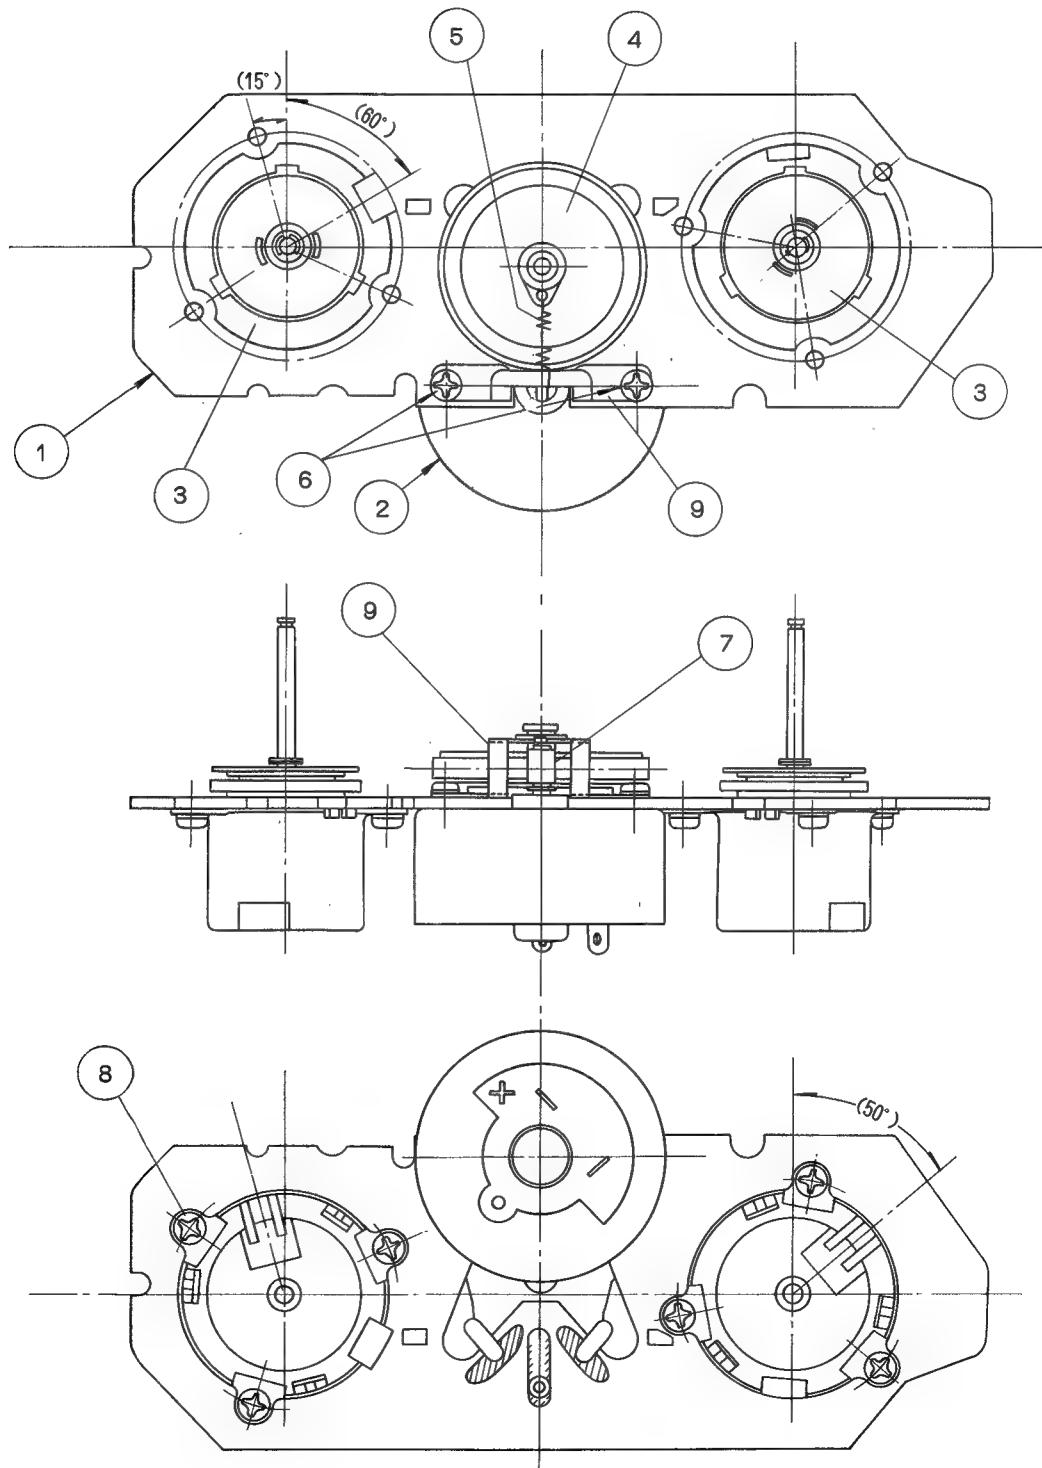

Figure 7-33.
- 1) Check that reel idler (4) is engaged with reel chassis (1) and reel idler spring (5) with the reel idler.
- 2) With care not to scratch the reel motor pulley 7, set the reel motor for exchange with two screws (XBPSD 30P06J00) (Longer screw than this will damage the motor.) so that the reel motor terminal and the spring hook angle 9 align in the direction as shown in Fig. 7-33.
- 2) Move the reel idler to the center of the reel chassis as shown in Figure 7-33 and pull it toward the reel motor slightly. Then the reel idler comes off.
- 1) Fasten the replacing brake unit with three screws (XBPSD30P04J00) in the direction show in Figure 7-33.